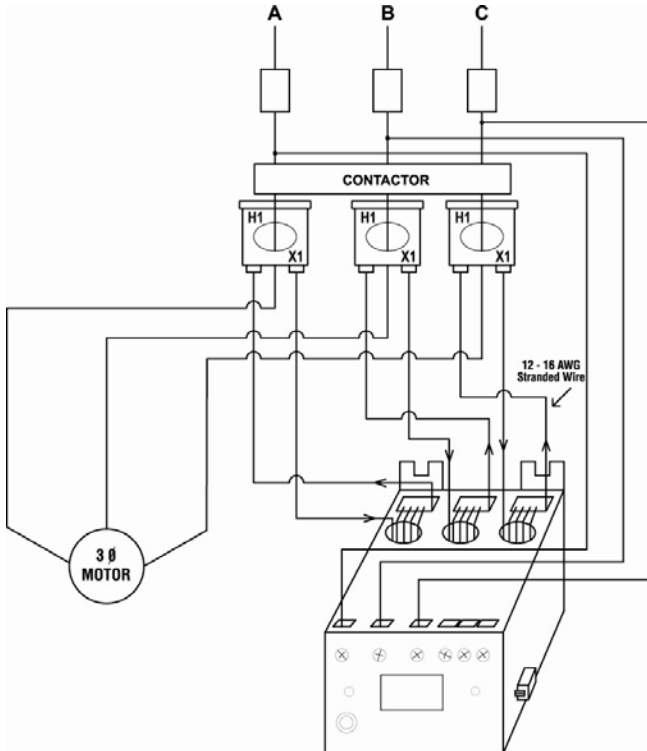

Figure 3: Typical Wiring Using External CTs1
- c) For amperages greater than 90 amps, external CTs (current transformers) are required. SymCom recommends using CTs with terminal connections for easier installation. All CT secondaries must make five passes through the round holes on the MotorSaver® Plus. See Figure 3 for a typical wiring diagram using external CTs.